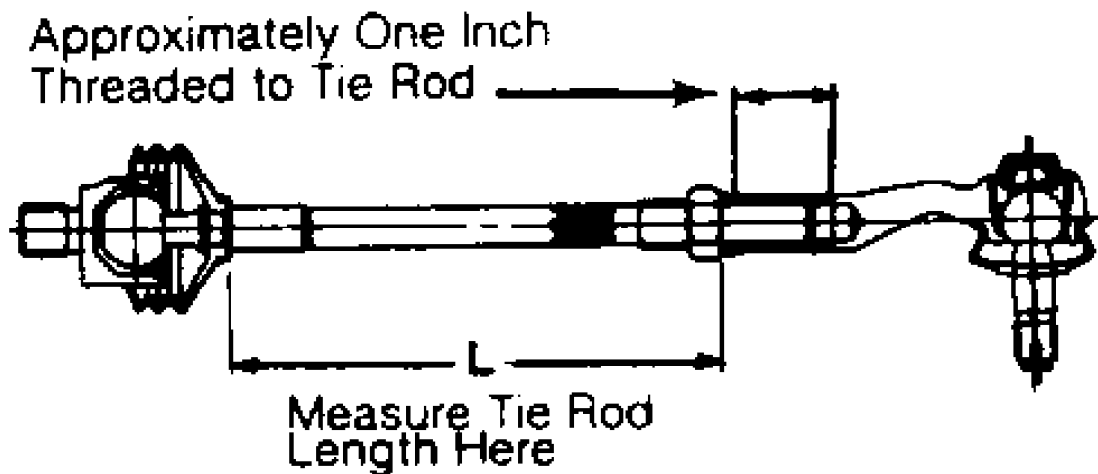

Fig. 5: Measuring Tie Rod Length
9) Ensure that at least one inch of tie rod end is threaded onto tie rod. Repeat procedure for opposite tie rod assembly. Adjust tie rod length so that distance from outer side of lock nut to end of boot mounting groove is 7.24" (184 mm). See Fig. 5. Tighten lock nut.